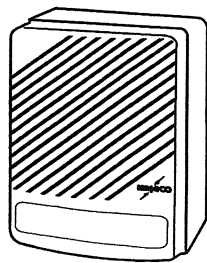

Fig.1
- 2) Remove the bottom screw from the chime and open the front cover. Secure the TOP mounting screw to the wall leaving some length of the screw out to hang the chime (Refer to Fig.1,2,3.). Hang the chime properly on the wall and secure the bottom screw (3/4").